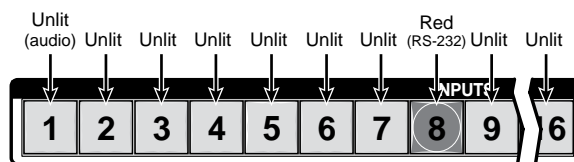

Figure 3-69 — Audio/RS-232 display
1. To enter *Serial Port and Audio/RS-232 Input Configuration mode*, simultaneously press and **hold all** Control buttons (Enter, Preset, View, and Esc) (figure 3-69).